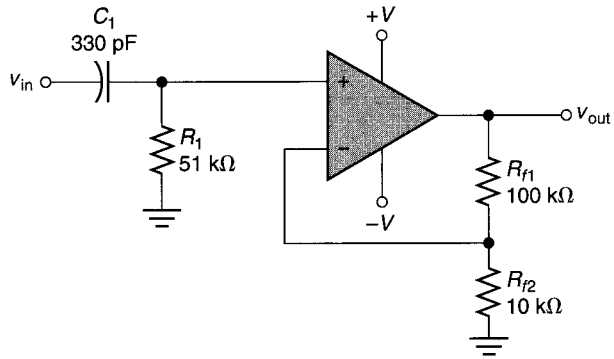

FIGURE 17.48
- 13.** Calculate the lower cutoff frequency and closed-loop voltage gain of the filter in Figure 17.48.